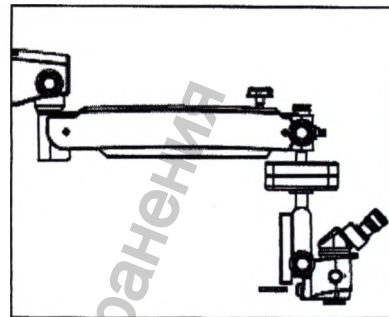

Fig. 13
6.11. Connect cable of the pedal lever to the microscope (for embodiments PRIMA DNT, PRIMA ENT, PRIMA OPH) See figure 13.